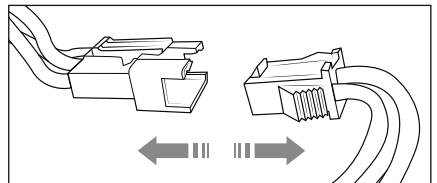

Fig. 14
- 2) Disconnect the plug connection of the battery (see Fig. 14), and remove it from the battery compartment.